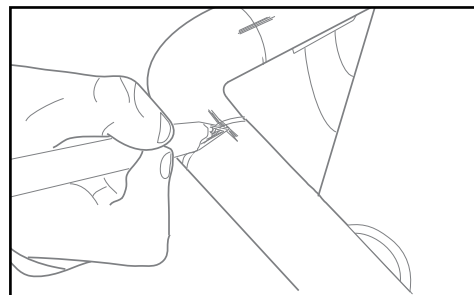

Fig. 14
- Insert the joiners into the corner. Dry fit the assembled corner with the lineals. If all components are aligned properly, make reference marks - Fig. 14.